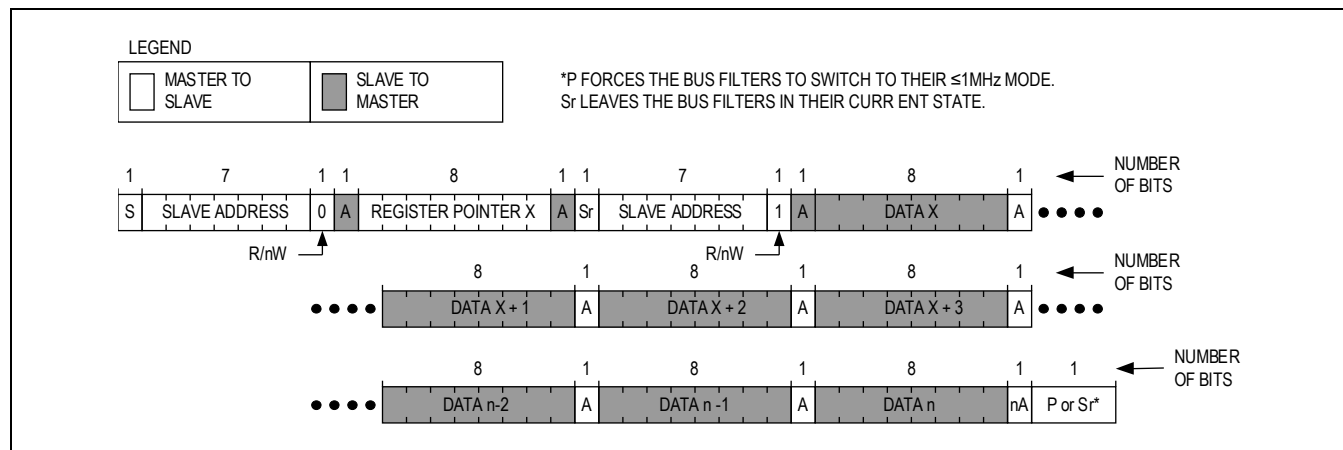

Figure 18. Reading Continuously from Sequential Registers X To N
Figure 18 shows the protocol for reading from sequential registers. This protocol is similar to the "Read Byte" protocol except the master issues an ACKNOWLEDGE (A) to signal the slave that it wants more data—When the master has all the data it requires, it issues a NOT-ACKNOWLEDGE (nA) and a STOP (P) to end the transmission.